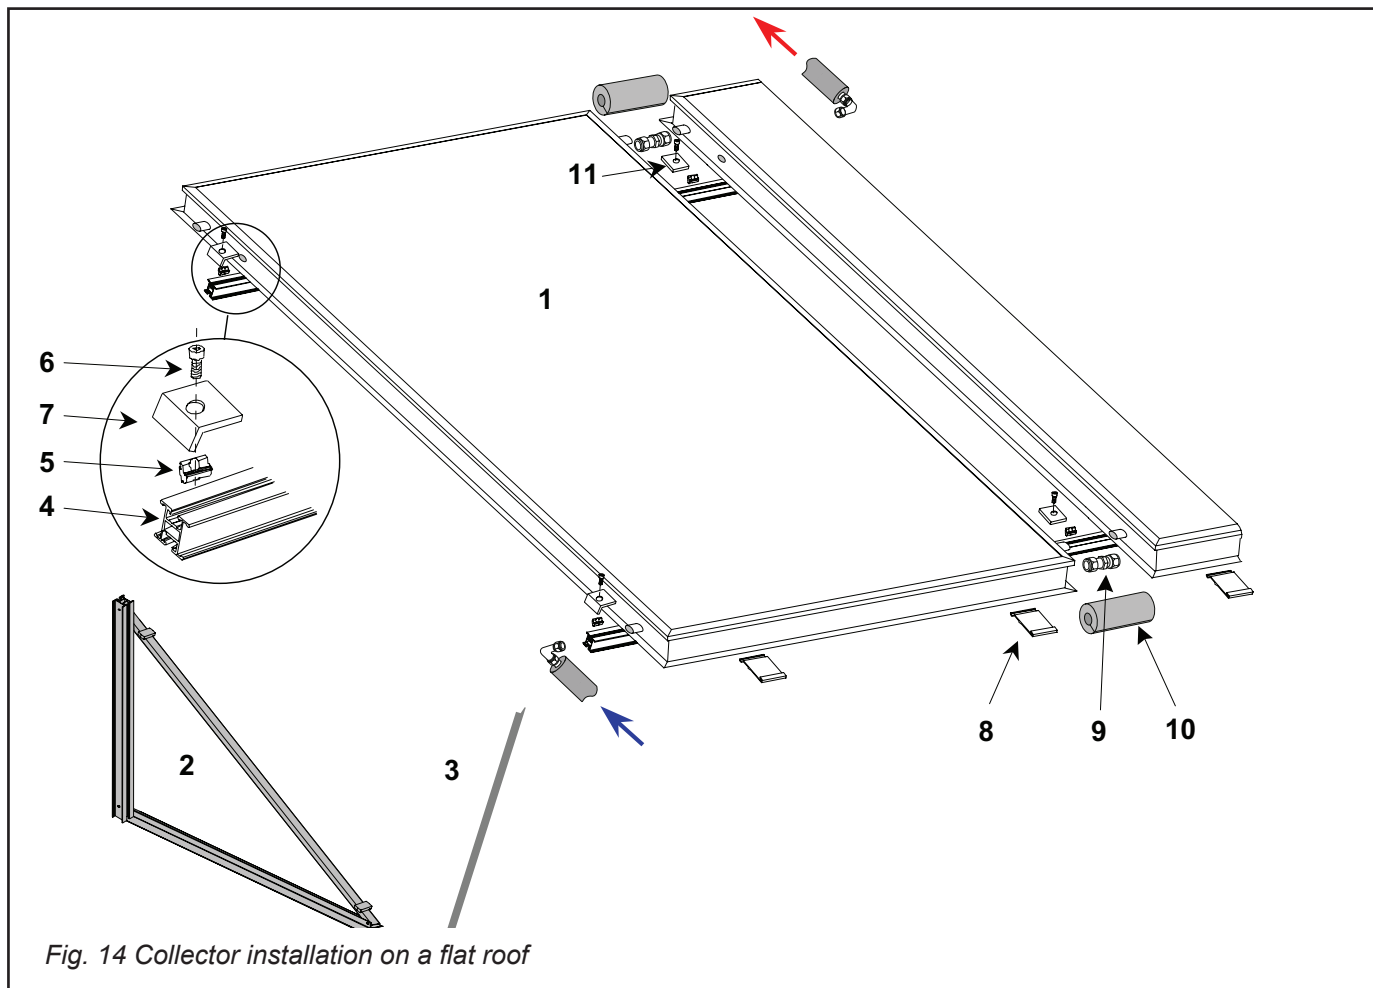

Fig. 14 Collector installation on a flat roof
- Lay the following collector next to the first one, maintaining a sufficient gap. Then put on the threaded fittings (Fig. 14, pos. 9) and push the collector to the already mounted one until stop. Hold the fitting with a spanner to prevent turning and tighten the nuts. More on this in chapter **5 Hydraulic Connection**.